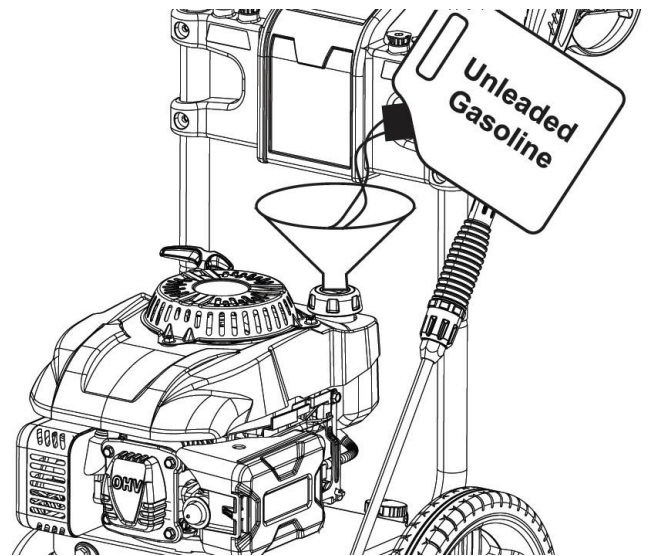

Fig. 8
**To add petrol, follow these steps: (Fig. 8)**